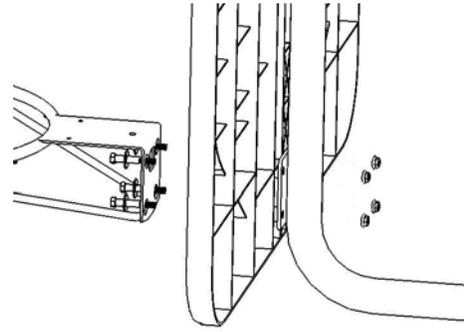

FIGURE 4
3. To install the rim to the backboard; align the four holes on the rim mounting plate with the holes in the backboard as shown in **FIGURE 4**. Insert the 5/16" x 2 1/2" bolts through the rim mounting plate, backboard and frame mounting plate. Be sure that there are washers between the bolt heads and the rim mounting plate. Place washers onto the ends of the bolts that pass through the frame mounting plate. Thread the hex flange nuts onto the ends of the bolts.